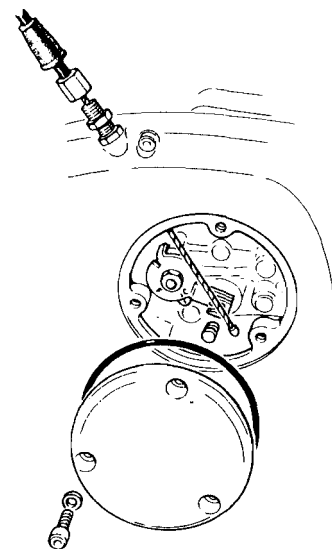

Figure 54 Oil pump cable
2. Unhook the cable from the oil pump lever whilst pushing the lever upwards and lifting the slack cable out of engagement. Take care not to lose roller (fig 54)
3. Assemble the oil pump control cable section by inserting the inner down through the brass hexagon adjuster and locating into the slot and counterbore of the nylon roller now replaced into the oil pump operating lever. Ensure the roller slot faces forwards (i.e. towards the pump lever spindle) and the cable nipple counterbore faces downwards (fig 54)
Adjustment of Oil Pump Cable After Refitting (fig 54)
The cable should be adjusted by means of the brass hexagon adjuster and lock-nut to provide the result as shown, with the engine running. (Fig 54)